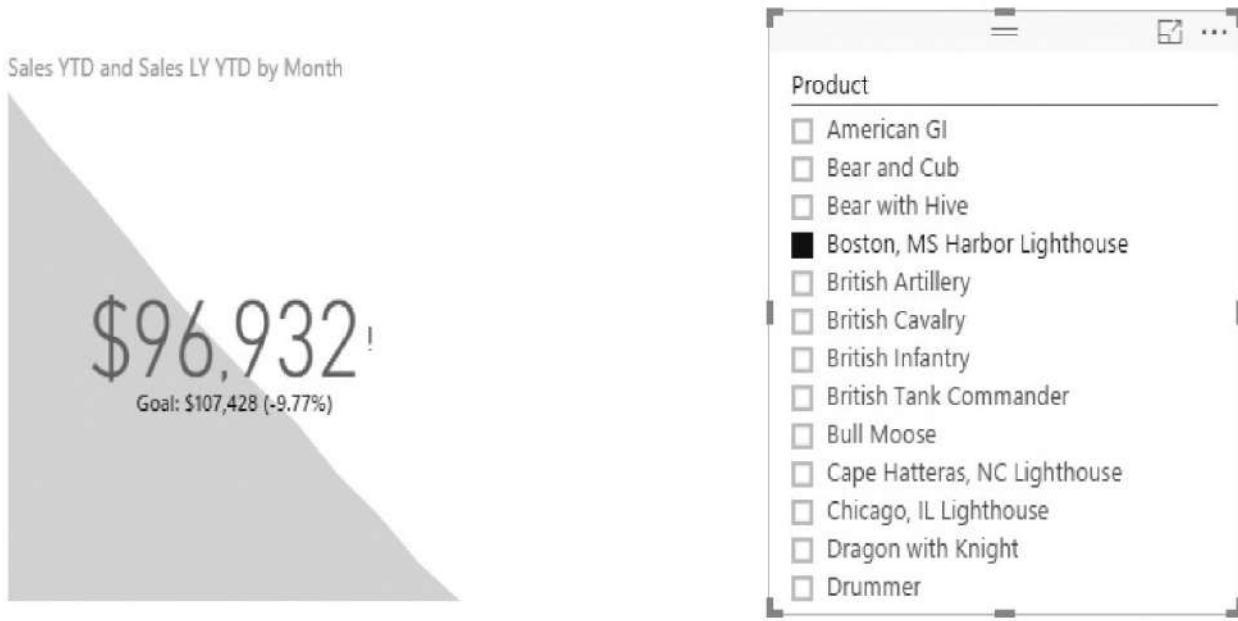

**Figure 16-24** The YOY Comparison report
12. Click the bar for Quarter 3, 2014. Your report appears as shown in Figure 16-24 . The chart drills into the three months of that quarter. Notice how our Sales in US Dollars Last Year measure adapts to the level we are at in the drilldown, displaying year or quarter or month values as appropriate.